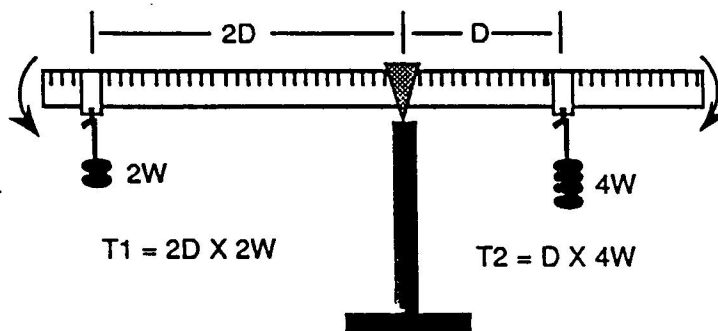

Figure 1
1. Slide the gold-colored knife edge clamp onto the meter stick so that the screw adjustment is at the bottom edge of the meter stick (refer to figure 1). Slide the clamp until it is near the 50 cm mark.